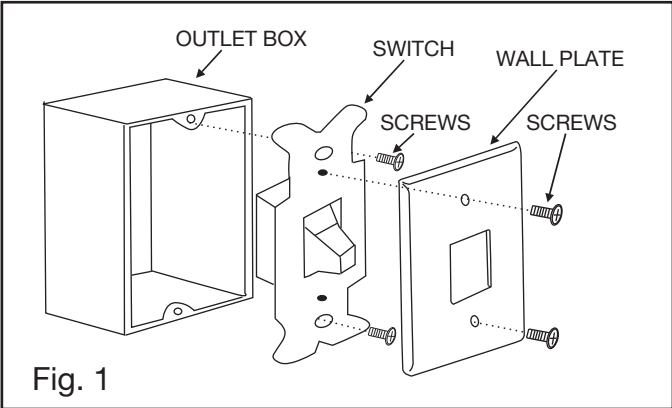

Fig. 1
- 1 Disconnect the power and remove the existing wall plate and switch from the wall junction box. (Fig. 1)